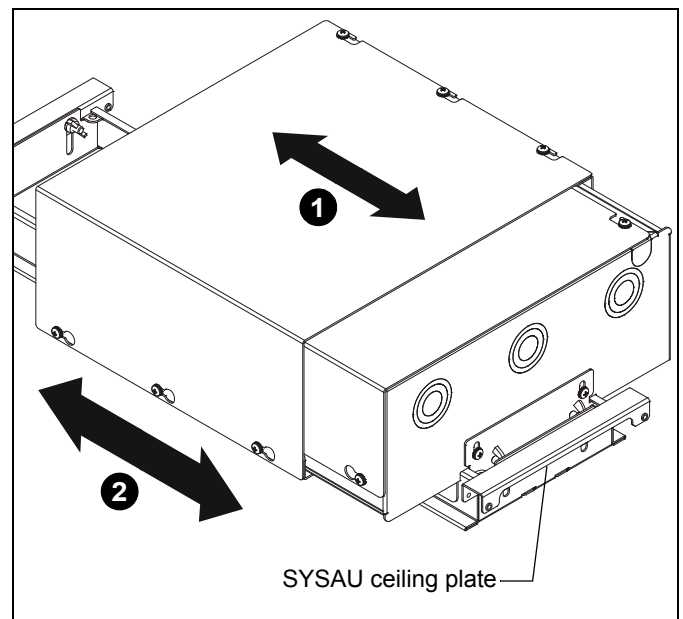

Figure 8
1. The CMA474 may adjust in length, as required. (See Figure 8)
2. The CMA474 may also be located in various locations on the SYSAU ceiling plate. (See Figure 8)
**NOTE:** Use the Phillips pan head self-drilling screws (G) when attaching the box body (left or right) to the SYSAU ceiling plate in a location other than at pre-drilled holes.